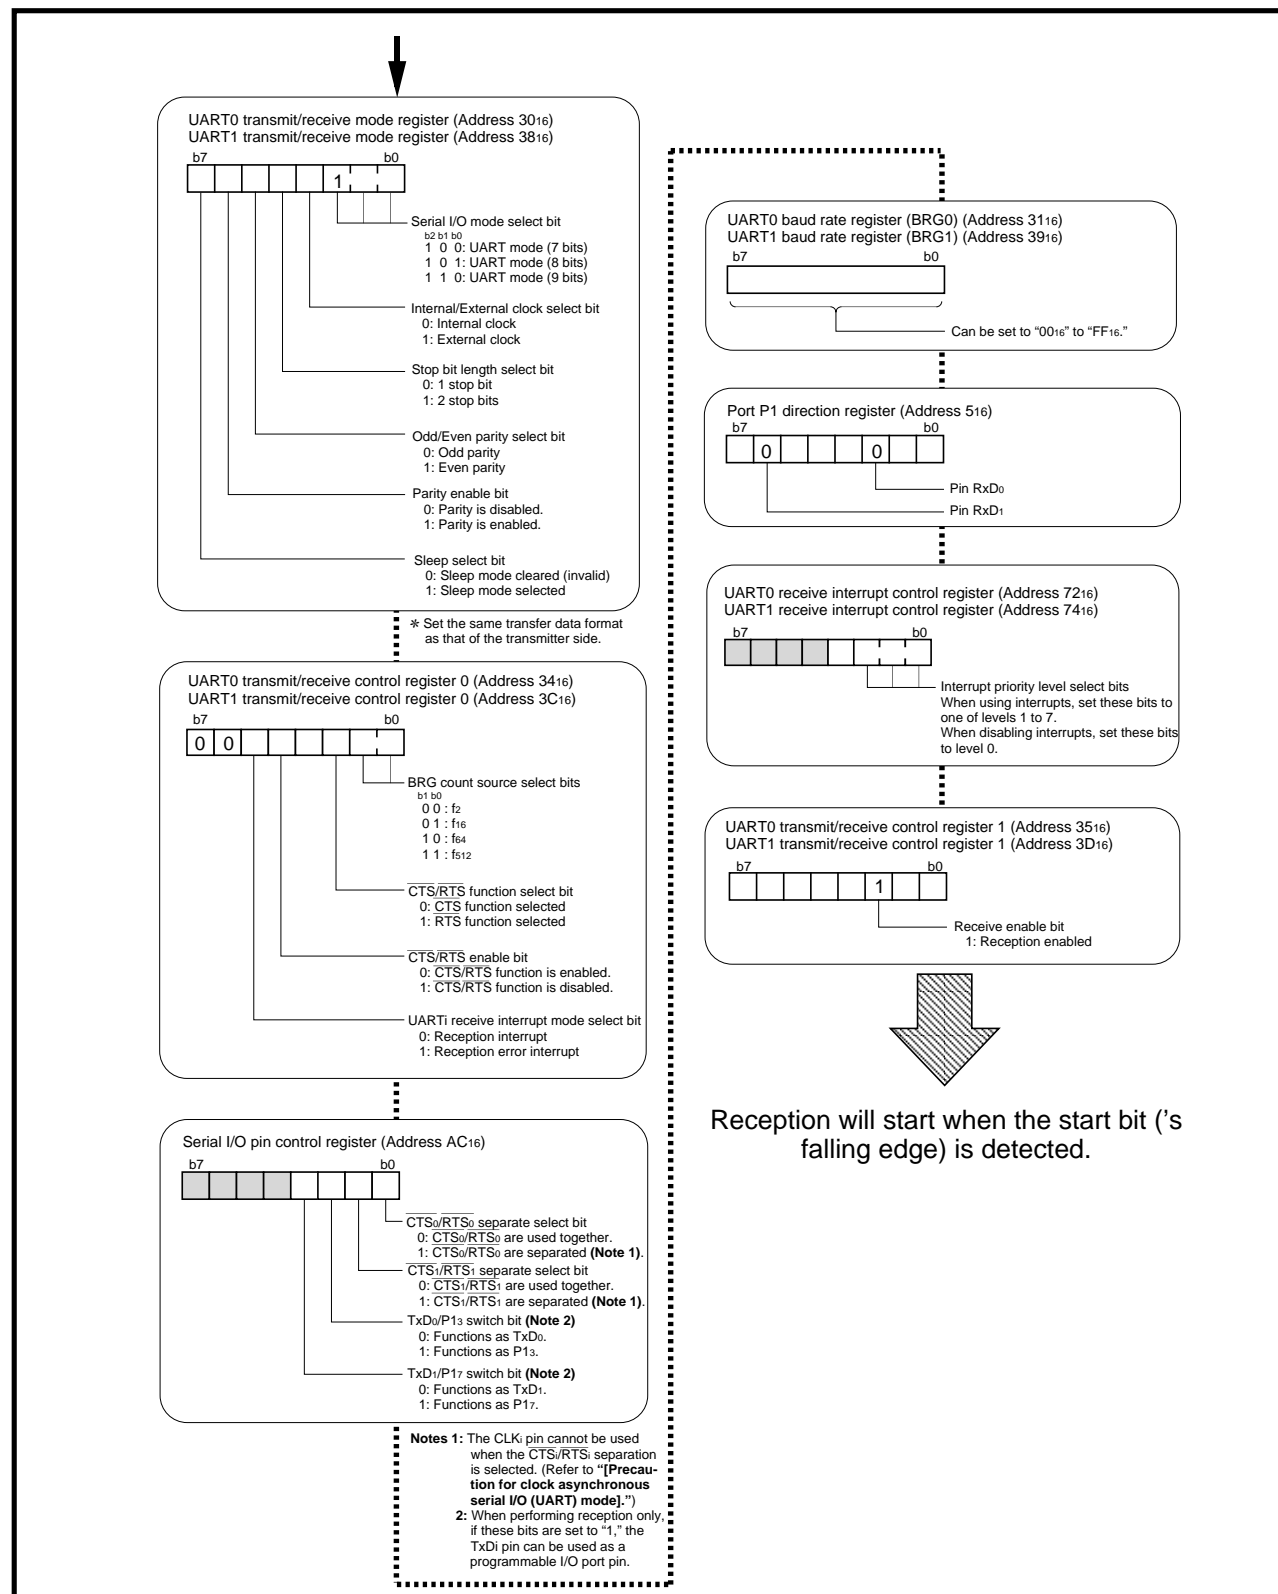

Fig. 11.4.10 Initial setting example for relevant registers when receiving
Figure 11.4.10 shows an initial setting example for relevant registers when receiving. Reception is started when all of the following conditions (① and ②) have been satisfied:
- ① Reception is enabled (receive enable bit = "1").
- ② The start bit (its falling edge) is detected.